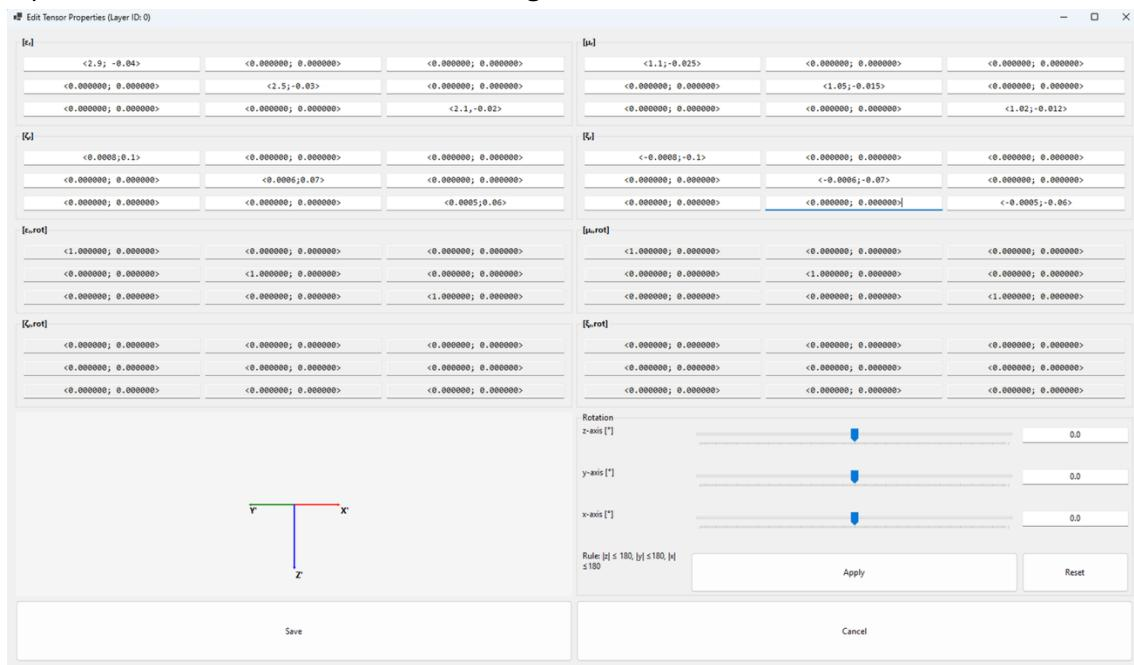

Figure 16. "Edit Tensor Properties" window after typing all parameters of Material 2
4. Input the tensor values as shown in the Figure 16 or the tensor matrices above.